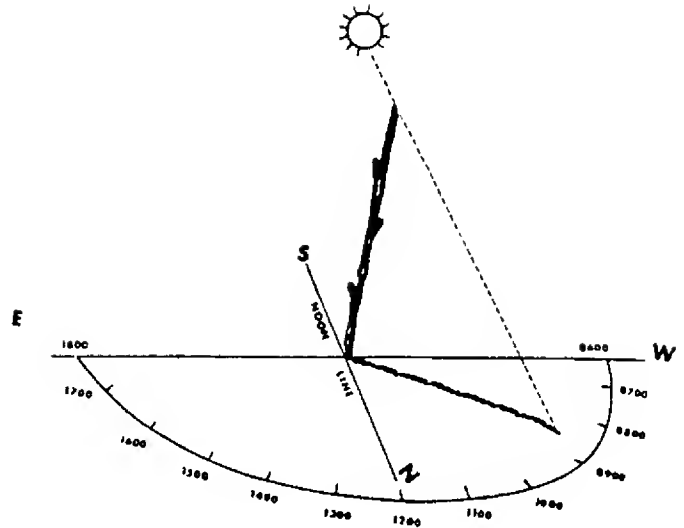

Figure 364 Determining Time by the Shadow Tip Method
2. The north-south line now becomes the noon line. The shadow of the stick is an hour hand in the shadow clock and with it you can estimate the time using the noon line and the 6 o'clock line as your guides. See Figure 364. Depending on your location and the season, the shadow may move either clockwise or counterclockwise, but this will not alter your manner of reading the shadow clock.